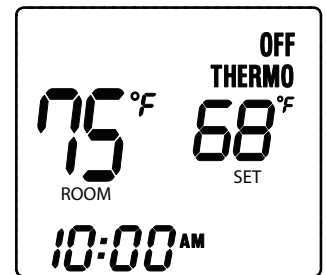

Fig. 6 Thermo Mode
**Step 2:** Press the MODE button a second time to put the to put the system in THERMO mode (Fig. 6).